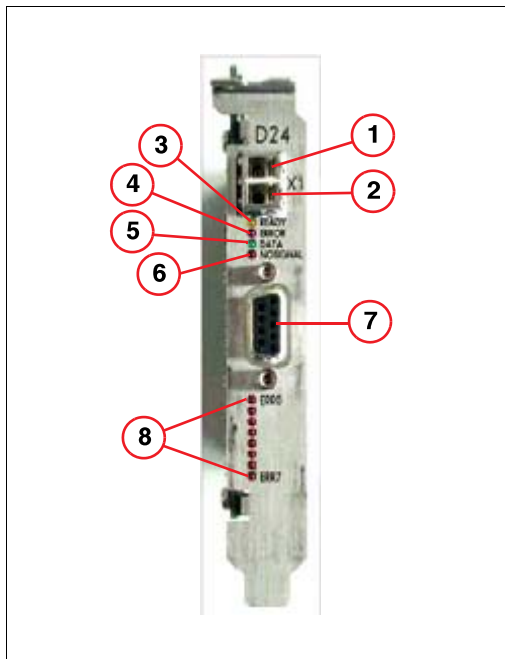

Fig. 32: Receiver board G-Rec64 D24
- The yellow LED **Ready** (3/Fig. 32 / p. 59) indicates that the driver is loaded and the board is in the Ready status, typically after a mode is loaded. If the local firmware is properly loaded, the LED flashes during standby.
- The red LED **Err** (4/Fig. 32 / p. 59) indicates that a transmission error has occurred.
- The green LED **Data** (5/Fig. 32 / p. 59) indicates that block data are being received.
- The yellow LED **NoSignal** (6/Fig. 32 / p. 59) indicates that no optical signal is available. In this case, check the optical connection between the receiver board and gantry or perform a loop back test as described in (Local test of the back projector in IRS REC 1, REC 2 or REC 3, CAN communication and receiver board in IRS AQP or IRS TCR / p. 88).
- The red LEDs **Err0** to **Err7** (8/Fig. 32 / p. 59) display the output of an 8-bit error counter. The counter is incremented via hardware with each error detected, and cleared at the beginning of a scan.